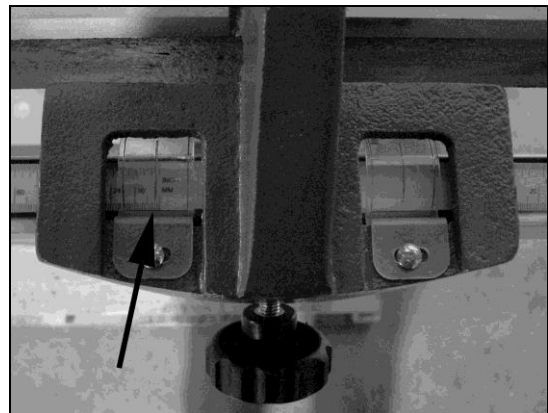

Figure 4
6. The measuring tape is peel and stick but at this time just slide the left tape under the fence bracket on the rail so the zero mark on the tape lines up with the left indicator on the fence as shown in Figure 4.